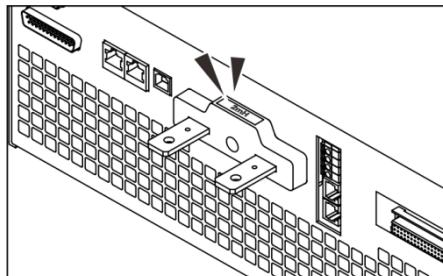

Figure 2-12
- | shown in Figure 2-12. For other models, contact your Chroma agent.